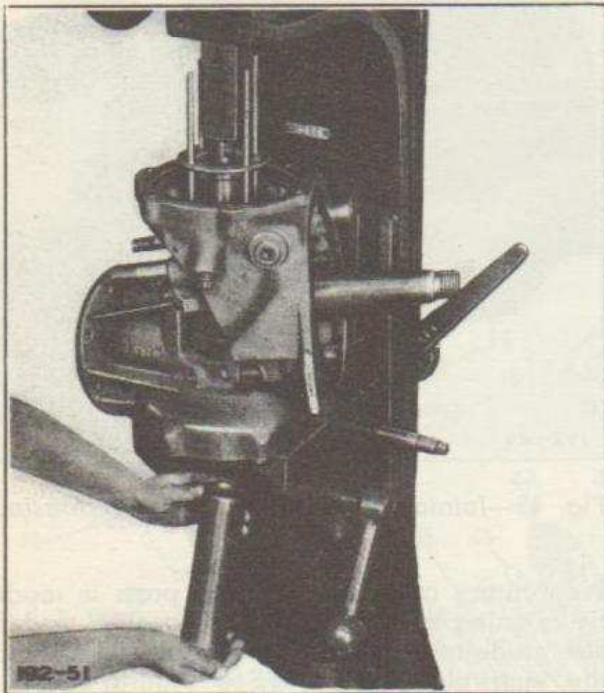

Fig. 51—Pressing King Pin into Position
Now invert sub-assembly and screw four 10" x 3/8"-16 rods into tapped holes at (52). Guide king pin into position by engaging holes in its flange with the rods. Then apply pressure to 2 1/8"-12 plug previously used as a puller. When the pin is inserted the guide tube will drop out. (See Figure 51).